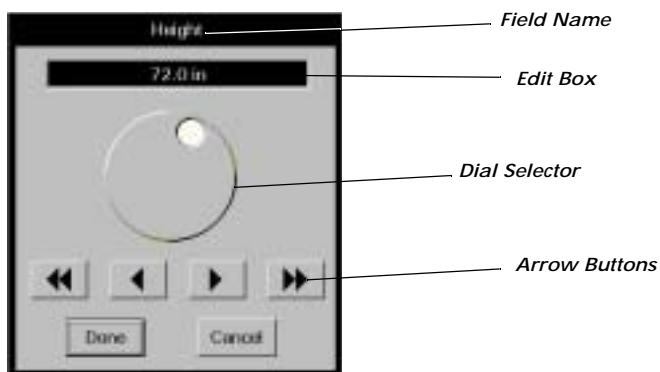

FIGURE 5-3 Height Dialog Box
1. From the **Demographics** tab, select the **Height** field. The **Height** dialog box (FIGURE 5-3) displays.